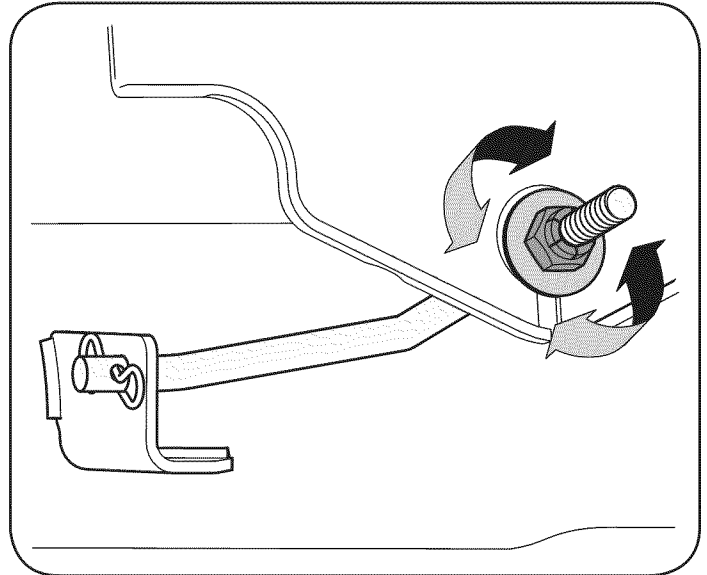

Figure 16
3. Locate the flange lock nut on the front side of the stabilizer bracket. See Figure 16.